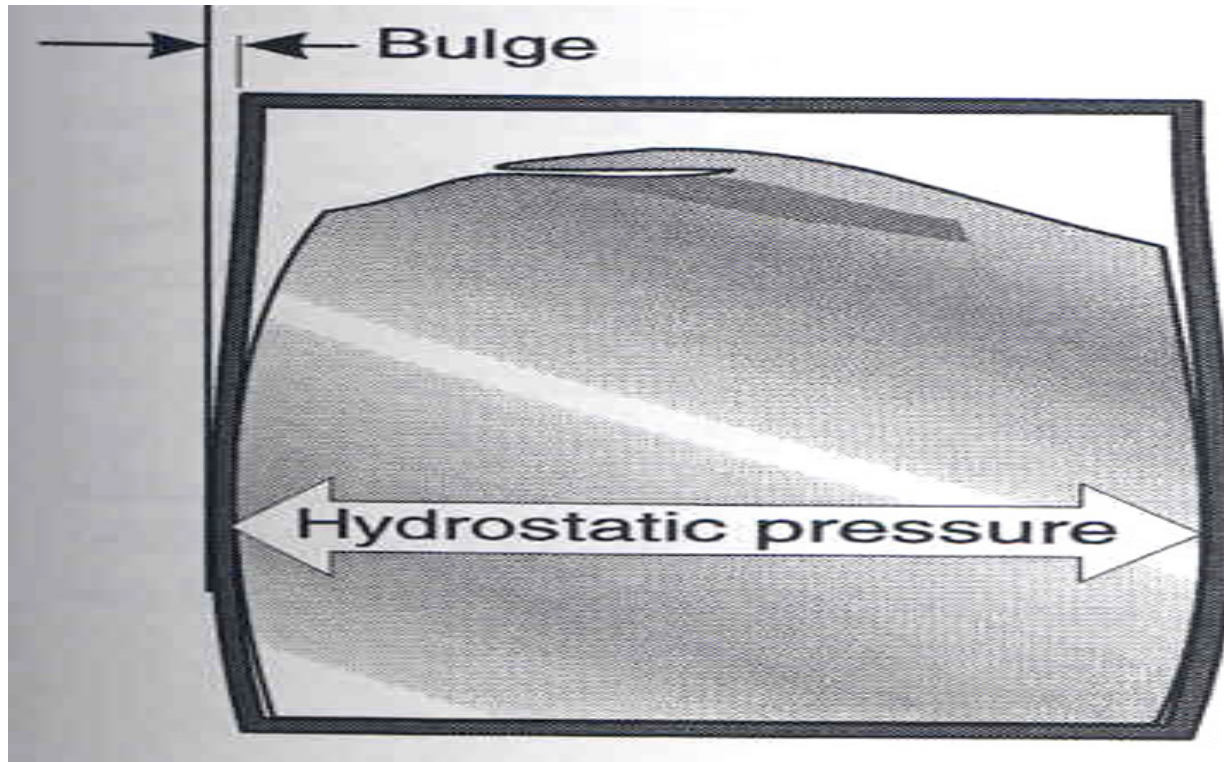

Figure 12.16 Bag-in-box systems reduce compression strength by bowing out the side walls
- Hydrostatic pressure appears as an outward bulge slightly below the midpoint and is greatest at the bottom of the enclosing box, with a corresponding loss of compression strength (Figure 12.16).